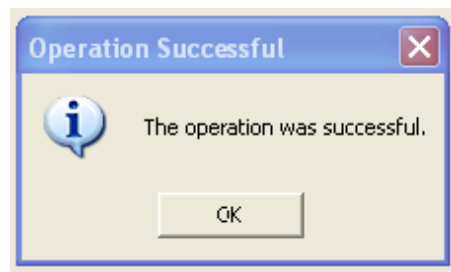

Figure 43: Operation Successful message
- An “Operation Successful” message appears if the operation is successful (Figure 43).